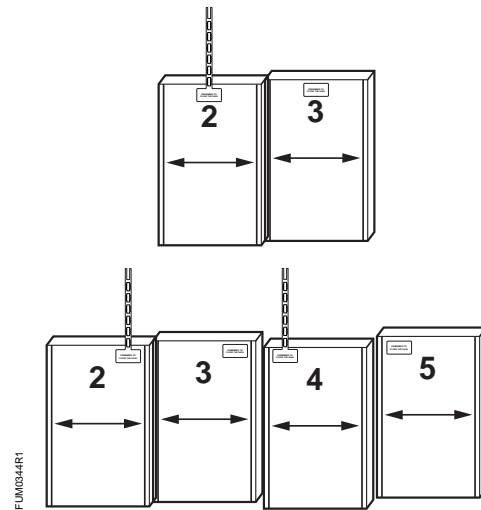

Figure 24. Linkage Mounting Block Locations (Two and Four sash configurations).
- As a general rule, the linkage should be mounted toward the inside edge of the sash panel. However, for two-sash configurations it is recommended that the linkage blocks be mounted on the center of the sashes (Figure 24).